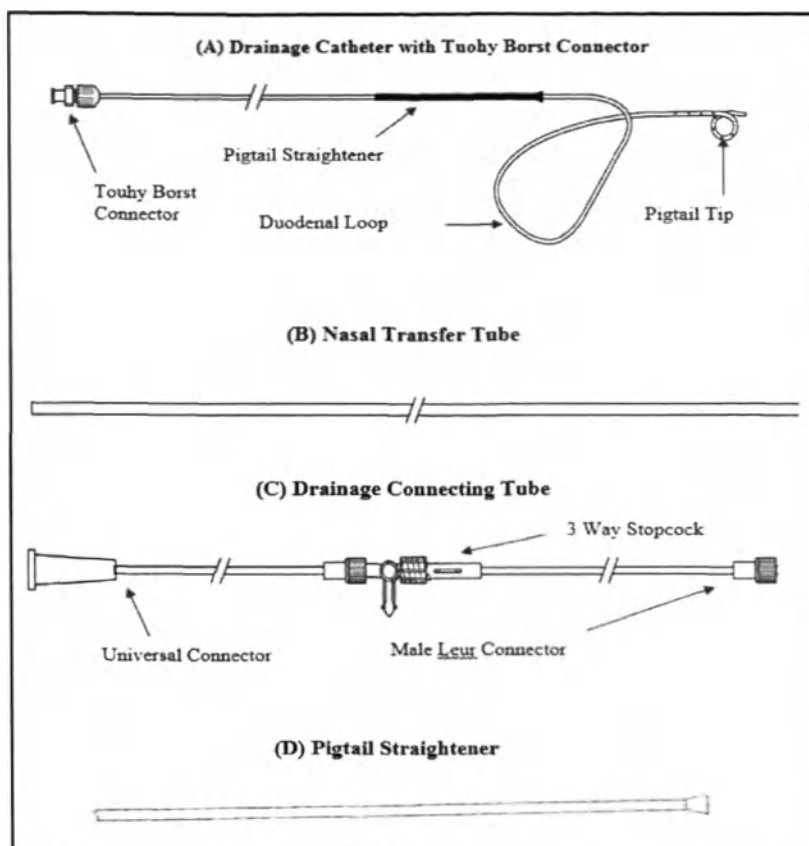

Figure 1: Nasal Biliary Drainage Set
A Drainage Catheter with Tuohy Borst connector is shown in (A) of Figure 1, by a representation of the ENBD-X-LIGUORY drainage catheter, with preloaded pigtail straightener. All drainage catheters have side ports at the distal end to assist in the drainage of bile and a Tuohy-borst connector.